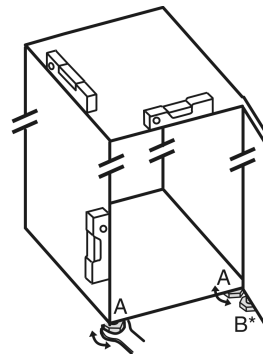

Fig. 5
- Unscrew the adjustable feet Fig. 5 (A) using the enclosed open-end spanner and a spirit level until the appliance is firmly aligned and level.
► Unscrew the adjustable foot *Fig. 5 (B)* on the swap bearing block with the enclosed open-end spanner until it rests on the floor.
► Turn the adjustable foot *Fig. 5 (B)* 90° further.